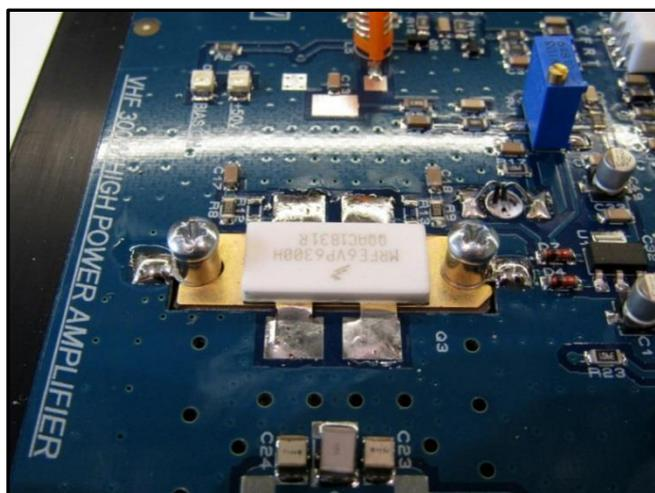

Figure 3:
- Smear a small amount of heatsink compound on the flange of the RF power transistor and using the 13mm No.4 self-tapping screws, two M3 earth tags and PCB spacers, mount the RF transistor to the heatsink (drain corner-cropped leads to the right). Position the earth tags as shown in figure 3, so they can be soldered to the ground pads near the top and bottom of the transistor. The tags should be trimmed so that they cover the ground pads and don't overhang blue areas of the board or touch other components.